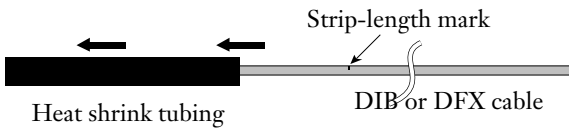

Figure 2
5.2 Slide the heat shrink tubing onto the DIB or DFX cable and out of the way past the mark made in step 5.1 (Figure 2).